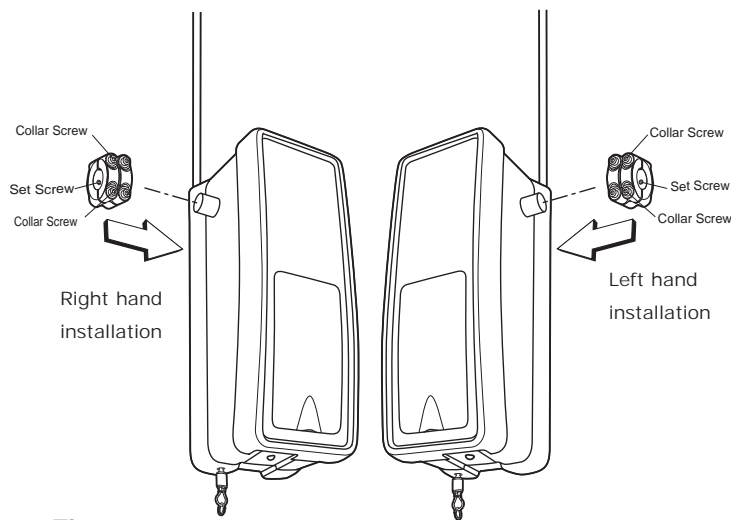

Figure 1
- Attach collar to either the left or the right side of the opener. Ensure that the collar is seated all the way on motor shaft until stop is reached (Figure 1).